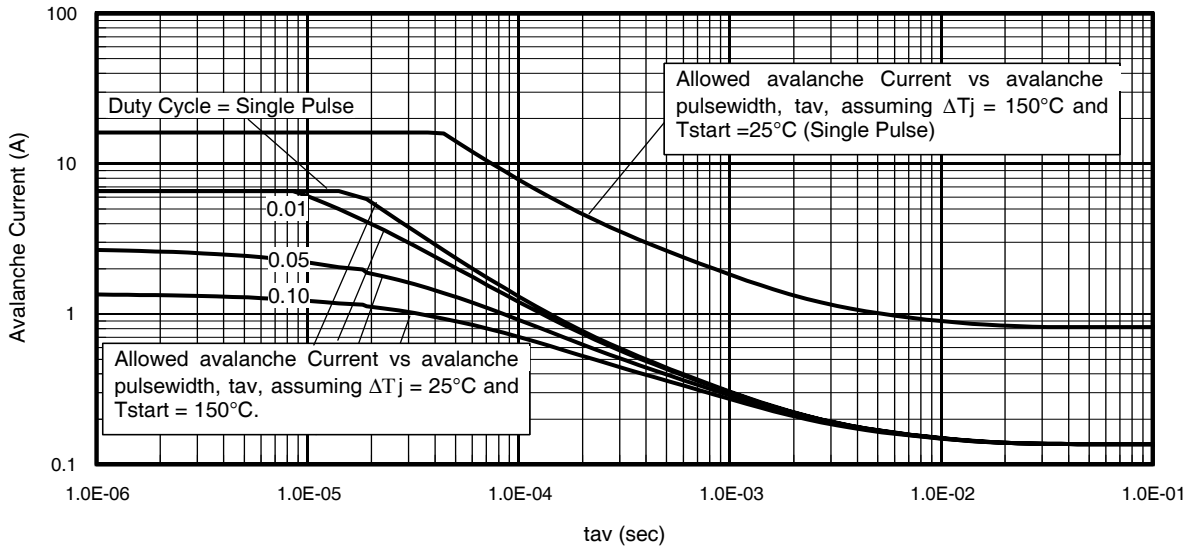

Fig 14. Typical Avalanche Current Vs. Pulsewidth
- ① Repetitive rating; pulse width limited by max. junction temperature.
- ② Starting $T_J = 25^\circ\text{C}, L = 1.46mH, R_G = 25\Omega, I_{AS} = 10A$.
- ③ Pulse width $\leq 400\mu s$; duty cycle $\leq 2\%$.
- ④ R_{θ} is measured at T_J of approximately 90°C .
- ⑤ Limited by T_{jmax} . See Figs. 14, 15, 17a, 17b for repetitive avalanche information
Notes on Repetitive Avalanche Curves, Figures 14, 15:
7. ΔT = Allowable rise in junction temperature, not to exceed T_{jmax} (assumed as 25°C in Figure 14, 15).